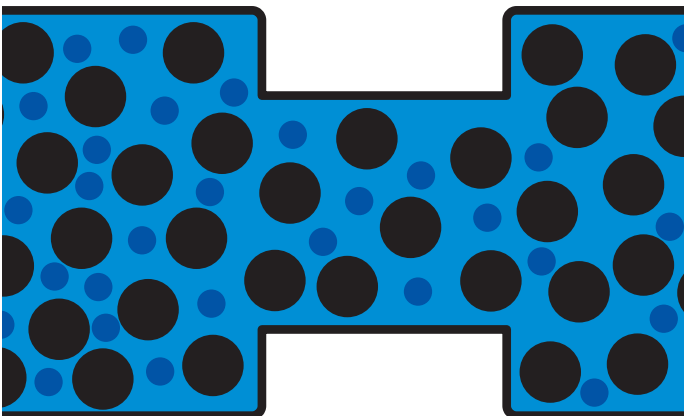

Fig 2: A thinner wire has a higher resistance
- The thinness (or thickness) of the wire – the thinner it is the higher the resistance because there is simply less space in the material to allow the electrons to flow (Fig 2).